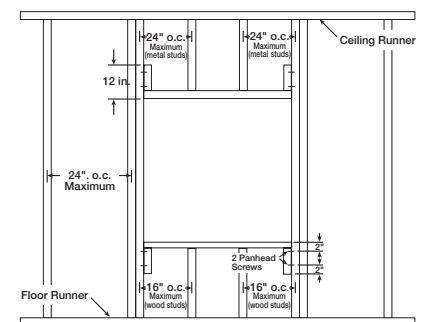

Figure 4 — Fasten Gypsum Wall Board
- b. Fasten gypsum wall board 12 inches on center to all stud and runner flanges surrounding opening. Refer to Figure 4.